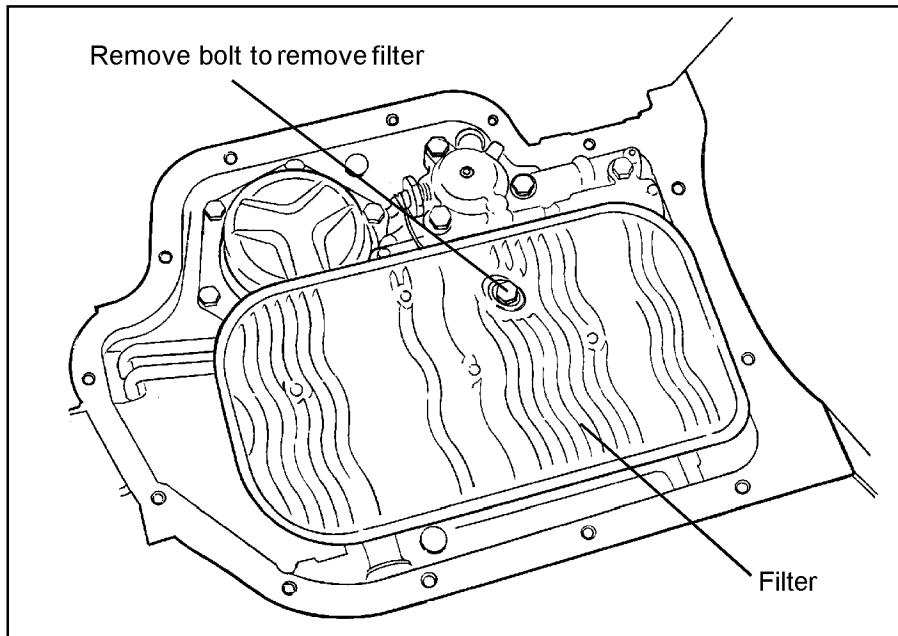

Figure 3
**STEP 2. Oil filter removal (See Fig. 3)** Remove the shoulder bolt holding the filter and pull the filter straight down. Some models also use a spacer between the filter and valve body. If the oil pick-up tube did not come out with the filter, pull it out. Remove the O-ring from the bore in the case if it did not come out with the oil pick-up tube. Be careful not to scratch the case bore when removing the O-ring.